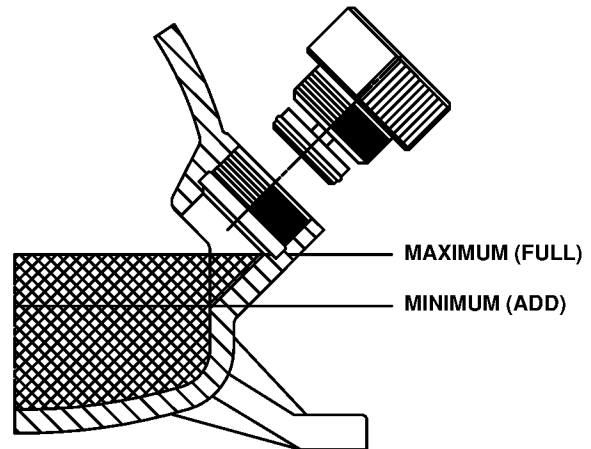

FIGURE 5–1 – OIL FILL
4. Remove the oil filler plug and add oil as required to return the oil level to the chamfer at the top of the filler neck (see FIGURE 5–1, above). The oil filler plug is provided with a lateral safety hole, from which oil or air will appear if the oil reservoir has not been completely blown down.
DO NOT OVERFILL. The quantity required to raise the oil level from “MINIMUM” to “MAXIMUM” is shown in FIGURE 5–1. Repeated addition of oil between oil changes may indicate excessive oil carry–over and should be investigated.